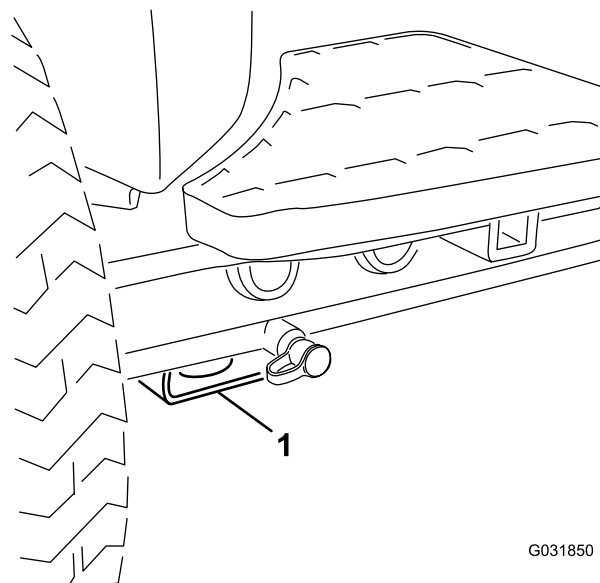

Figure 36
- Front—rectangular pad, under the axle tube, inside each front tire (Figure 36).